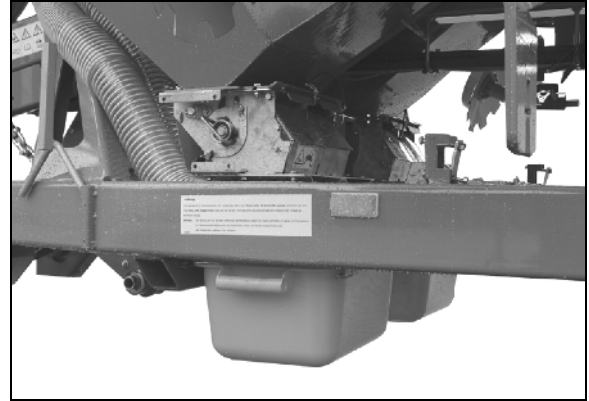

Fig. 74
1. Replace the calibration crank (Fig. 74) into its transport retainer.
3. Affix the seed collecting trays (Fig. 74) in their transport retainer and secure by using a lynch pin.
3. Slide the seed collecting tray (Fig. 74) into the bracket.